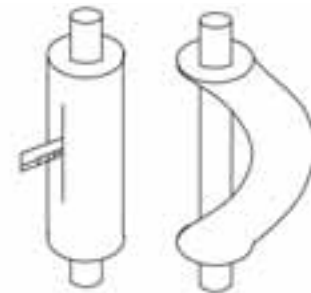

Fig. 12
- (1) Extend the pipe by hand. Be careful not to crimp it.
- (2) Do not bend the pipe more than 90°.
- (3) If pipe is repeatedly bent or stretched, it will weaken making it more likely to break. Do not bend or stretch the bend for over 3 times.
- (4) For best results, cut insulation before bending, as shown in Fig.12. Bend pipe as needed and secure insulation with tape.